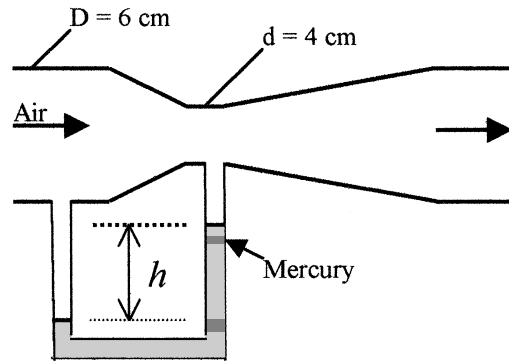

Fig. P6.161
6.161 Air flows at high speed through a Herschel venturi monitored by a mercury manometer, as shown in Fig. P6.161. The upstream conditions are 150 kPa and 80°C. If $h = 37$ cm, estimate the mass flow in kg/s. [HINT: The flow is compressible.]